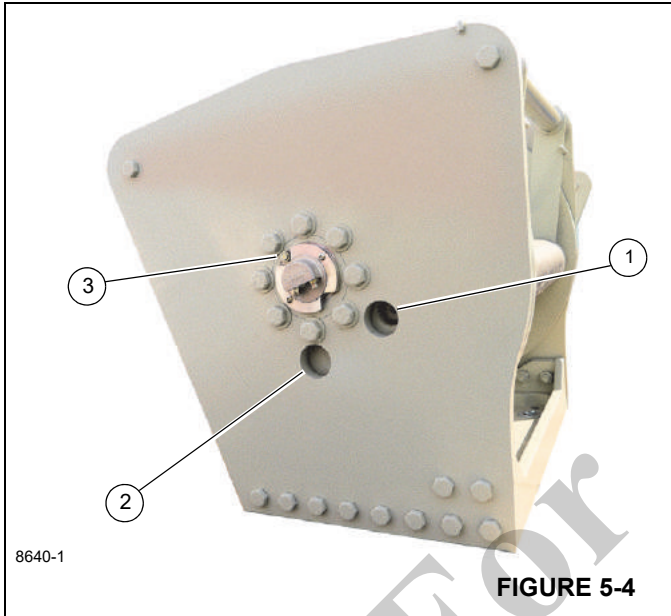

FIGURE 5-4
- Rotate the drum until the oil fill/level plug (1, Figure 5-4) is visible in the inspection hole.
- Remove the fill/level plug (1) and visually inspect the oil level. The oil should be level with the bottom of the inspection hole. If more oil is needed, add and reinstall fill/level plug.
- To drain and add new oil, remove the vent plug (3, Figure 5-4). Remove the drain plug (2) with a hex head socket and then screw a 1" pipe into the drain plug hole (2) to allow the oil to drain. Drain hydraulic oil. Remove the 1" drain pipe and install drain plug (2).
- To fill with oil, rotate the drum so the fill/level port (1, Figure 5-4) is visible through the upper hole. Install a 1" pipe with elbow into the fill hole (1) to assist in adding oil. Remove fill/level plug with a hex socket and fill gear box with 3.3 l (3.50 qt) of gear lube oil. See *Lubrication Points*, page 5-3.